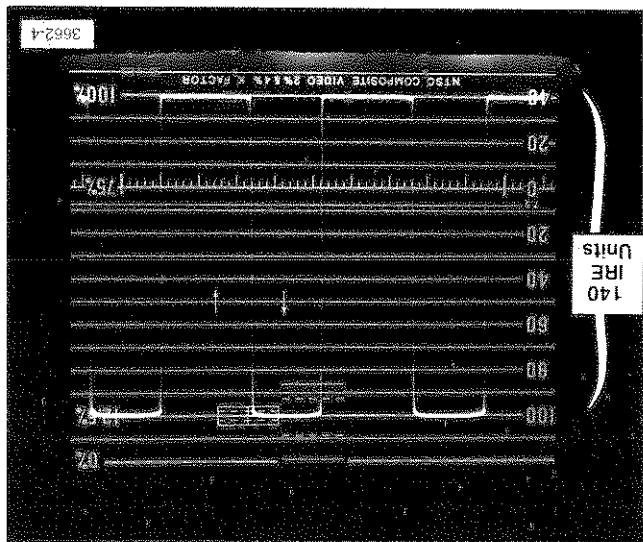

Fig. 2-2).
Fig. 2-2. Typical calibrator waveform display obtained when the VOLTS FULL SCALE switch is set to 1 V CAL, the VARIABLE (VOLTS FULL SCALE) control is set to CAL, RESPONSE is set to FLAT, SWEEP is set to 2H, and the display is properly focused.
9. Set the VOLTS FULL SCALE switch to the 1 V CAL position. With the vertical POSITION control, center the display in the -40 to 100 IRE unit area of the graticule. Adjust the ASTIGMATISM (rear panel) and FOCUS controls to obtain a well-defined waveform. The calibrator waveform should be 140 IRE units (within 1.4 units) in amplitude (see Fig. 2-2).